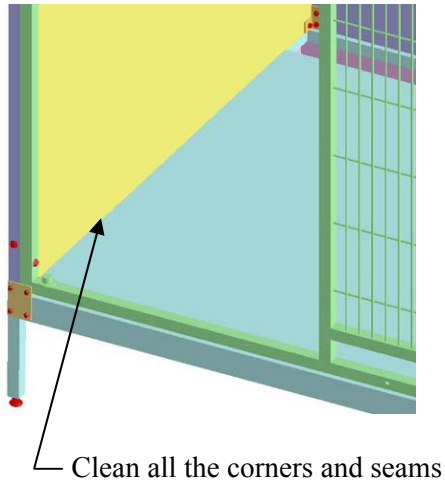

Figure 24
1. Use a primer or Isopropyl Alcohol (read health hazard information) to clean all the corners, cracks, edges, and areas that need to be sealed. This should remove any dust or oil that would inhibit good adhesion (**Figure 24**).